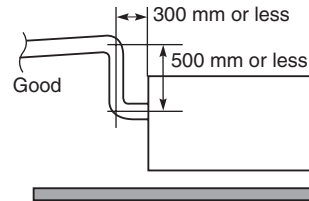

Fig. 2-116
- If it is necessary to increase the height of the drain pipe, the section directly after the connection port can be raised a maximum of 500 mm. Do not raise it any higher than 500 mm, as this could result in water leaks. (Fig. 2-116)